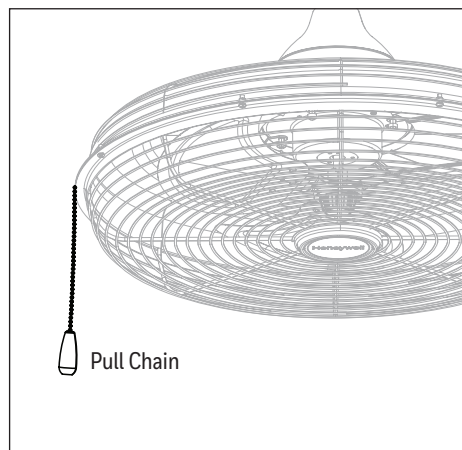

Figure 2.2
2. The fan pull chain has four positions to control fan speed. One pull is LOW, two is MEDIUM, three is HIGH and four turns the fan OFF (Figure 2.2)